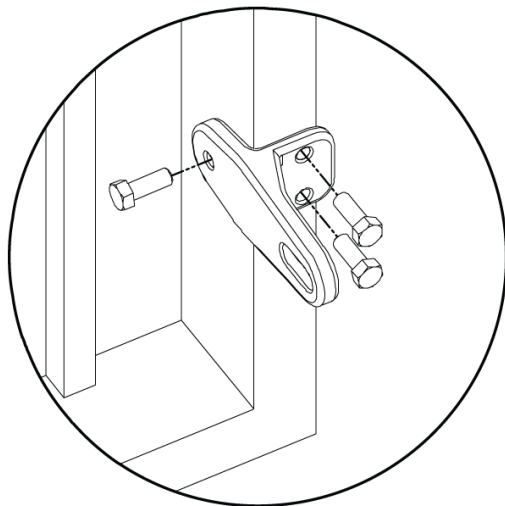

Figure 13. Attach Gate Bracket
6. For steel gates, the brackets can be welded directly to the gate (Figure 13).